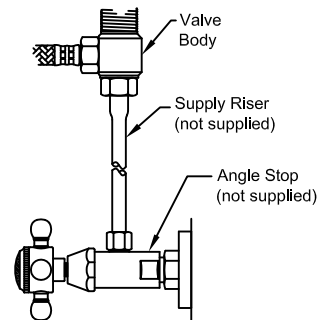

Fig. 5
- 7 Connect Valve to Water Supply (see Fig. 5):**